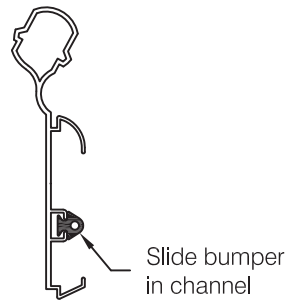

fig 4
**Step 6:** Cut flexible cushion short enough to comfortably fit between molded accessories. Slide cushion into receptacle on aluminum retainer, see **fig 4**.